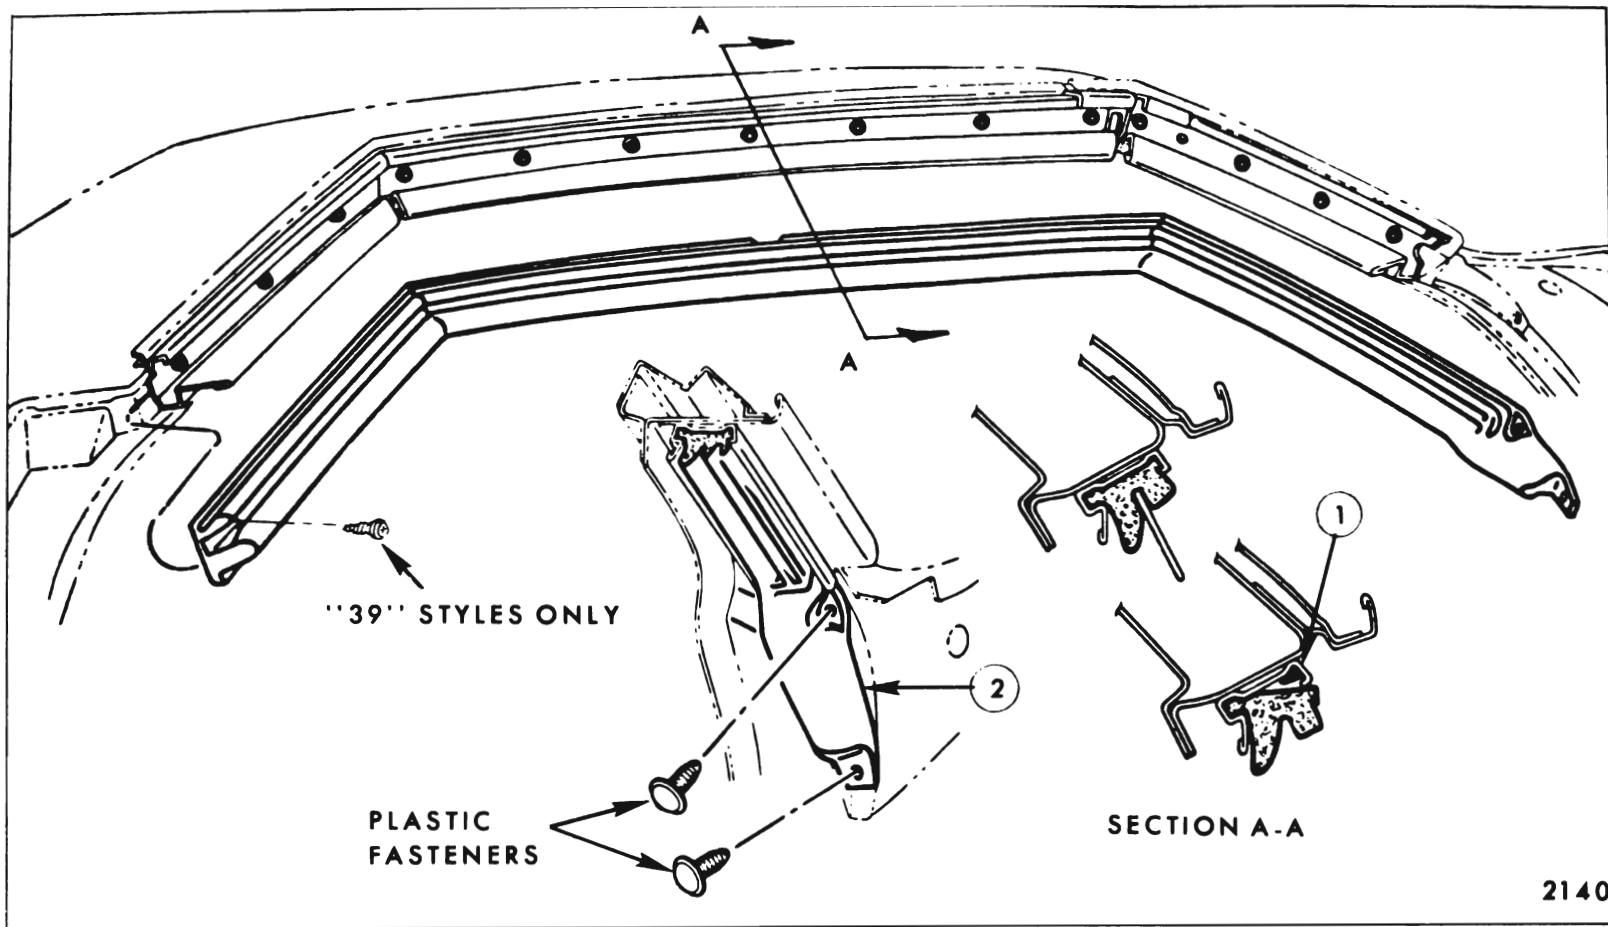
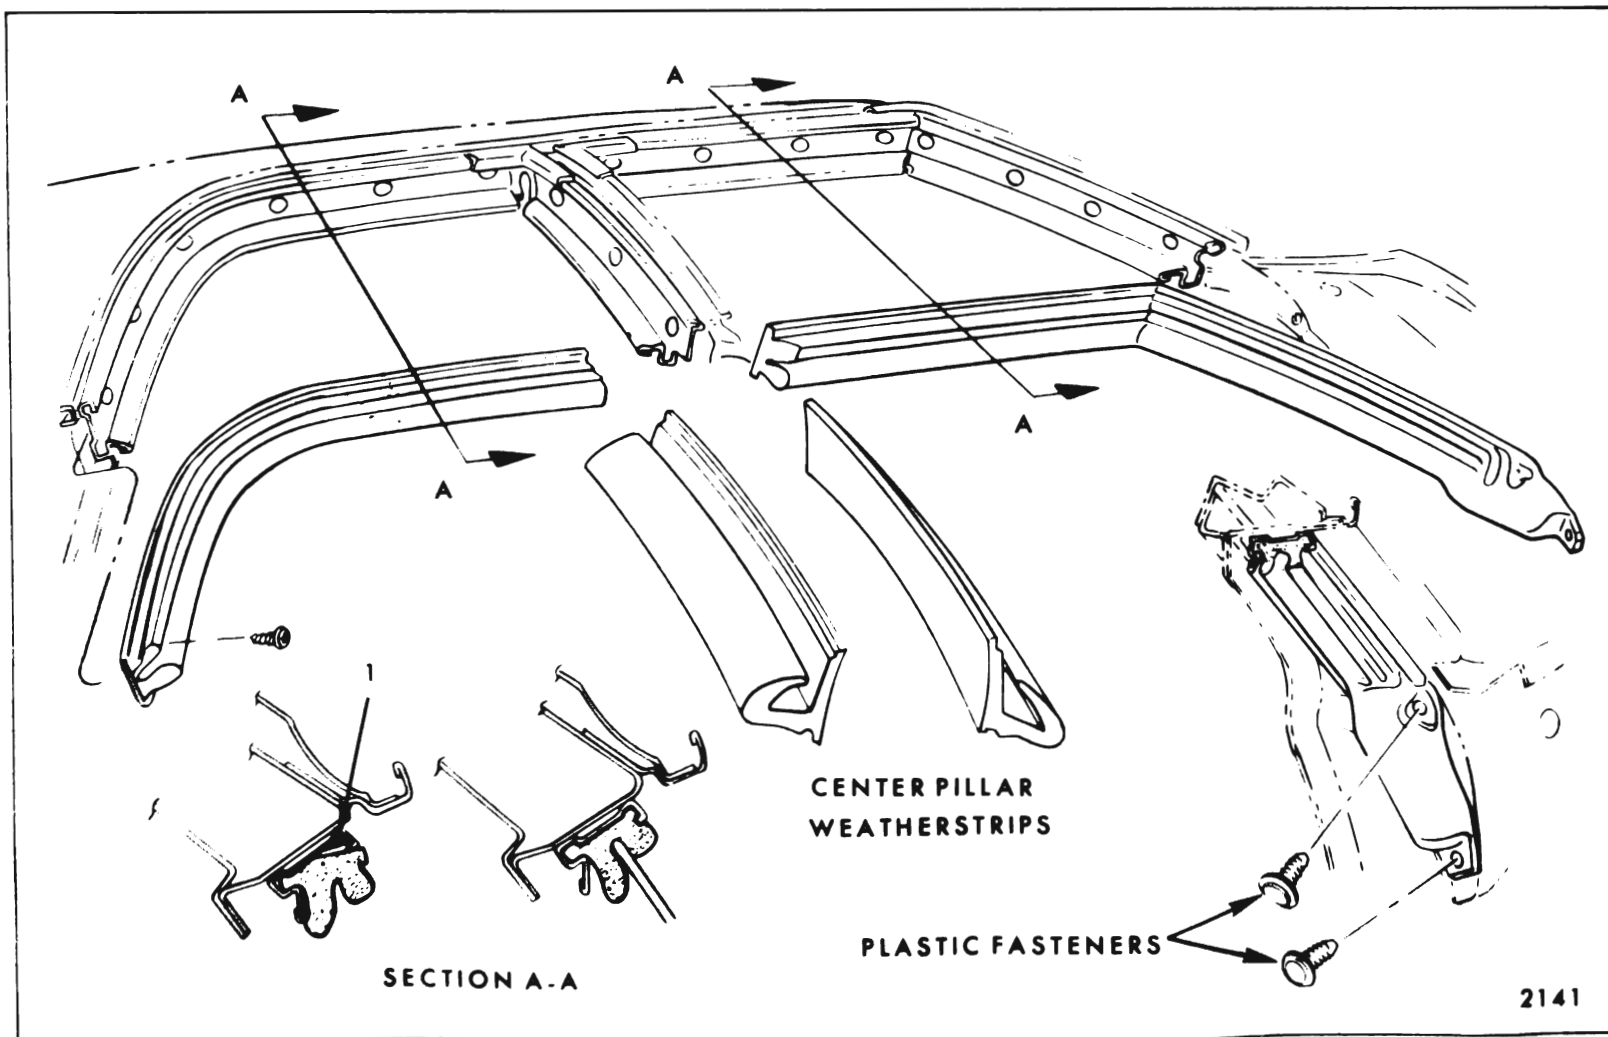
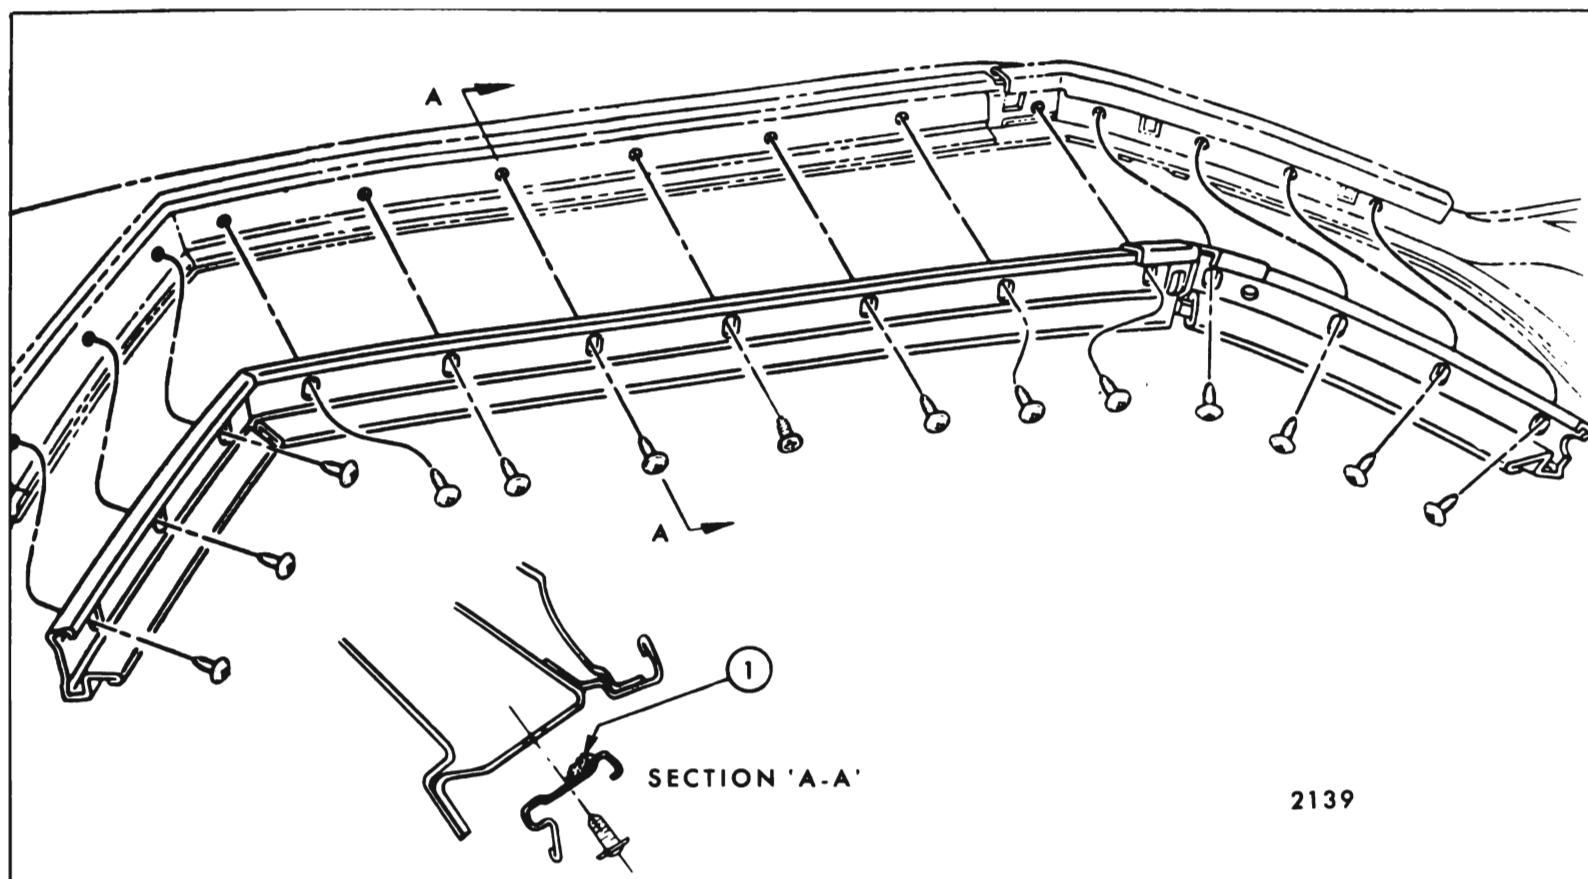

Fig. 7-35—Side Roof Rail Weatherstrip - "17-37-39 and 57" Styles
Fig. 7-36—Side Roof Rail and Center Pillar Weatherstrips - "C-69" Styles
Fig. 7-39—Side Roof Rail Weatherstrip Retainer - "17-37-39 and 57" Styles
1. Remove plastic fasteners at front and screw at rear of side roof rail weatherstrip. On "C-69" styles, plastic fasteners are used at front of front door side rail weatherstrip and screw at rear of rear door side rail weatherstrip (Fig. 7-35 for "17-37-39 and 57" Styles, Fig. 7-36 for "C-69" Styles).
3. With weatherstrip removed, screws securing weatherstrip retainer to side roof rail are exposed. Remove screws to remove side roof rail weatherstrip retainer (Fig. 7-39).
4. Position retainer to body and install attaching screws. Prior to installing weatherstrip, re-install door glass stabilizer clip(s) in retainer using retainer screws for retention. (Fig. 7-39 for all styles except "C-69", Fig. 7-36 for clip locations on "C-69" Styles). At front door opening, install clip just forward of front door window upper rear corner. On "C-69" Style rear doors, install clip just rearward of rear door window front upper corner.
3. Apply a continuous bead of a pumpable type body caulking compound to surface of retainer that mates with side roof rail ("1", Fig. 7-39). Apply bead outboard of attaching screw holes.
5. Apply a bead of black weatherstrip adhesive to outboard flange of weatherstrip retainer ("1", Fig. 7-35 & 7-36). Extend adhesive down front body hinge pillar to seal lower front end of weatherstrip that is retained with plastic fasteners ("2", Fig. 7-35).
6. Position front end of weatherstrip to body and install plastic fasteners. Then, using a flat-blade tool, begin engaging weatherstrip with retainer as shown in Section "A-A", Figures 7-35 and 7-36). Engage inboard lip of weatherstrip first, then, outboard lip.
- After weatherstrip has been installed along length of retainer on "39" and "C-69" Style, install screw at rear end of weatherstrip (Figs. 7-35 and 7-36).